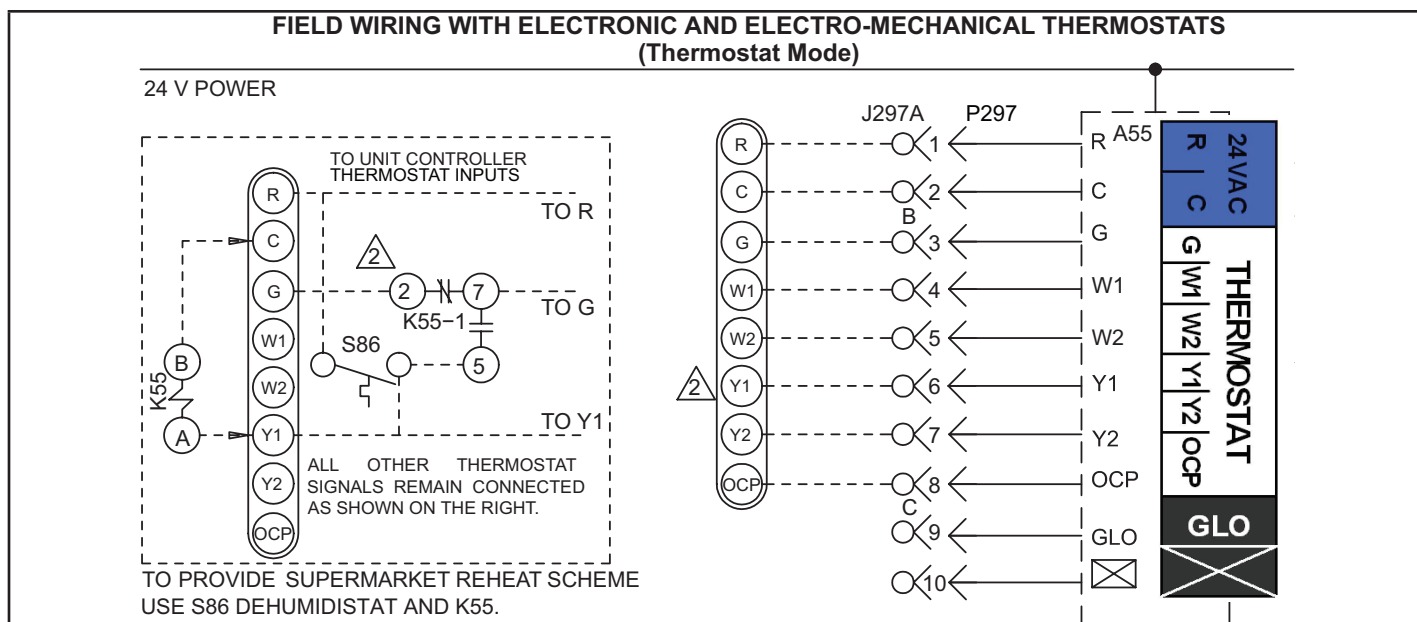

**FIGURE 15**
- 4 - Wire as shown in FIGURE 15 for electro-mechanical and electronic thermostats. If using other temperature control devices or energy management systems see instructions and wiring diagram provided by manufacturer.